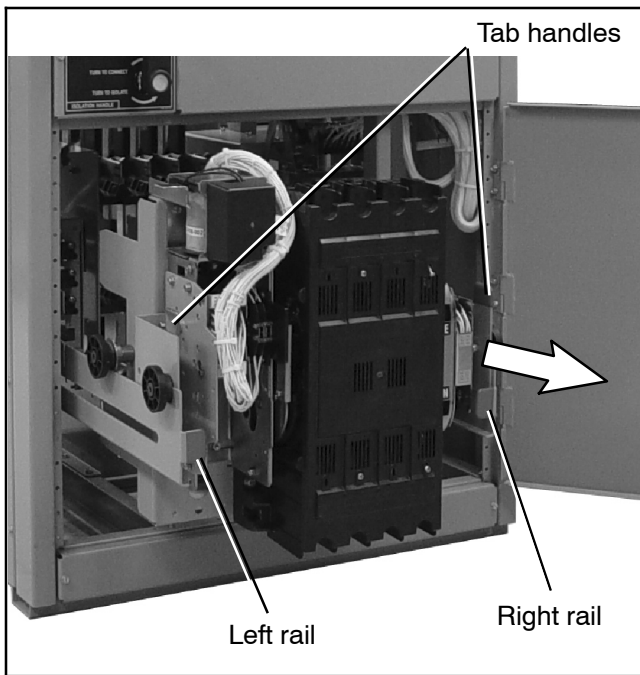
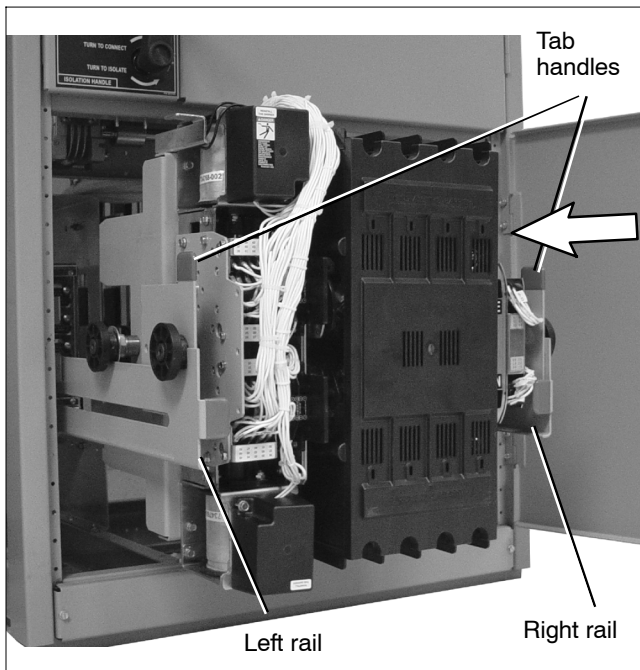

Figure 7-19 Transfer Switch Isolated and Pulled Out for Inspection (standard-transition model)
Figure 7-20 Transfer Switch Isolated and Pulled Out for Inspection (programmed- or closed- transition model)
- Open the lower enclosure door. Pull out both left and right side rails then use the two handles to roll out the transfer switch. It can be safely inspected in this position. The transfer switch can also be removed for easier maintenance operations. See Figure 7-19 or Figure 7-20.
1. Use the two handles to roll the transfer switch into the enclosure (isolation contacts facing inward) until its crank pins engage the latch plates on both sides. See Figure 7-19 or Figure 7-20. Next push in both side rails and close the enclosure door.